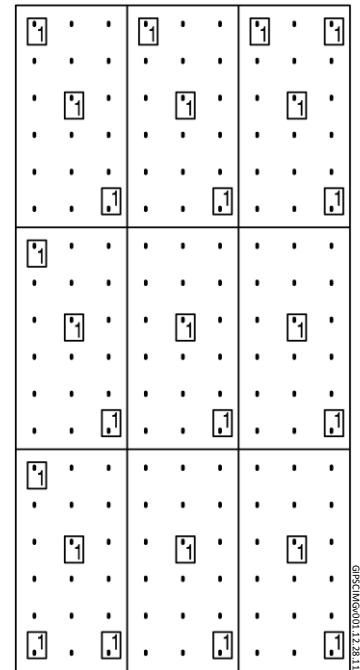

Figure 3 – Example of minimum connector check pattern for a wall panel containing nine sheets of 4ft x 8ft insulation.
8. **Check connector consolidation.** Temporarily remove one connector adjacent to each corner of each insulation sheet in the panel (*Figure 3*), as well as one connector at or near the center of each sheet in the panel and observe the embedded end. Wet concrete slurry should be present